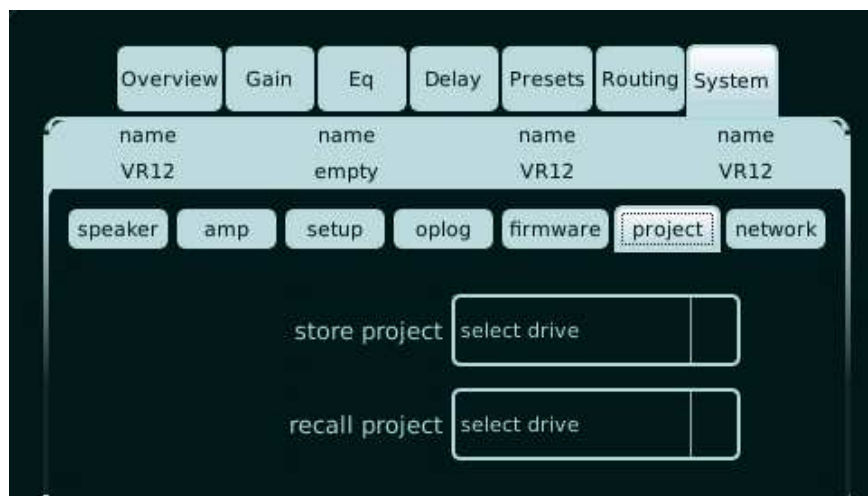

Fig 27. Project storage or recall
7.7.15 Project - the settings of all sections of the amplifier can be stored in a Project file / User preset. Up to 100 user presets can be stored internally; Each project can also be stored externally; For this, a USB stick needs to be plugged into the front-located USB connector. Through the QWERTY keyboard each project file can be renamed. A full 100-project user file takes up around 2MB. Recalling or loading a project can be done from internal or external (USB) storage. (see fig.27)